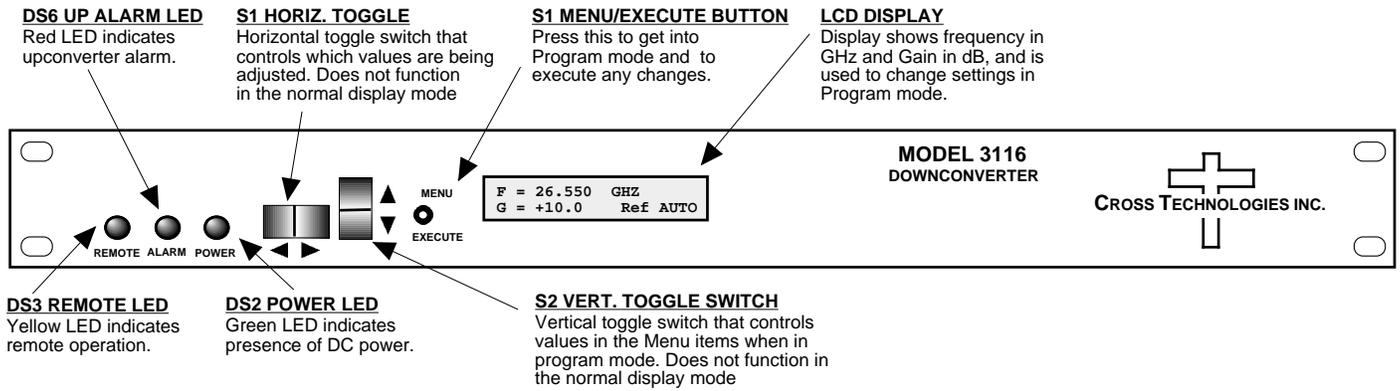

FIGURE 2.2 3116-277#-1200 Front Panel Controls and Indicators
Figure 2.2 shows the front panel controls and indicators.
5. Be sure DS2 (green, DC Power) is on and DS6 (red, Alarm) is off (Figure 2.2).
Alarm indications appear on the LEDs (see Figure 2.2).